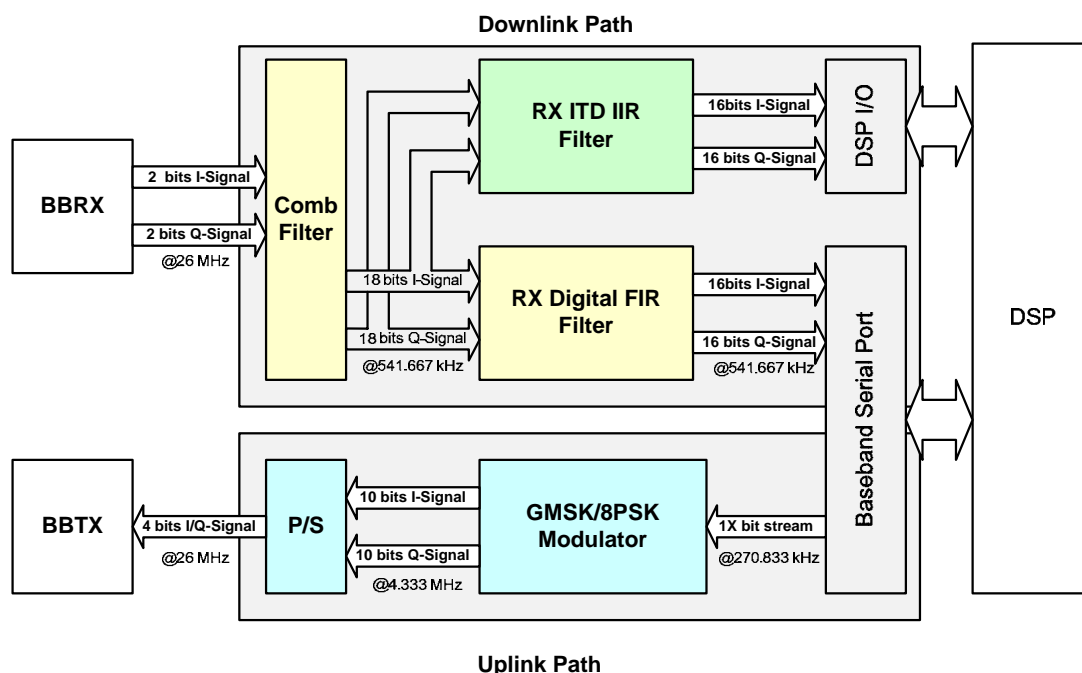

Figure 74 Block Diagram of Baseband Front End
Baseband Front End is a modem interface between TX/RX mixed-signal modules and digital signal processor (DSP). We can divide this block into two parts (see **Figure 74**). The first is the uplink (transmitting) path, which converts bit-stream from DSP into digital in-phase (I) and quadrature (Q) signals for TX mixed-signal module. The second part is the downlink (receiving) path, which receives digital in-phase (I) and quadrature (Q) signals from RX mixed-signal module, performs FIR filtering and then sends results to DSP. **Figure 74** illustrates interconnection around Baseband Front End. In the figure the shadowed blocks compose Baseband Front End.